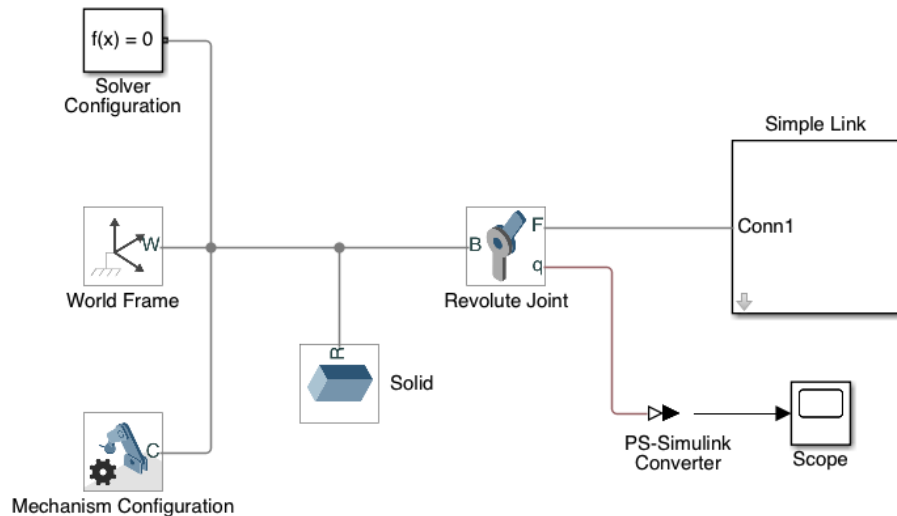

Figure 13: Simple Pendulum Block Diagram with Position Scope
21. In the block diagram workspace, add a “PS-Simulink Convertor” and “Scope” block. Then connect the blocks together to complete the sensing output. The diagram should appear as it does in figure 13.